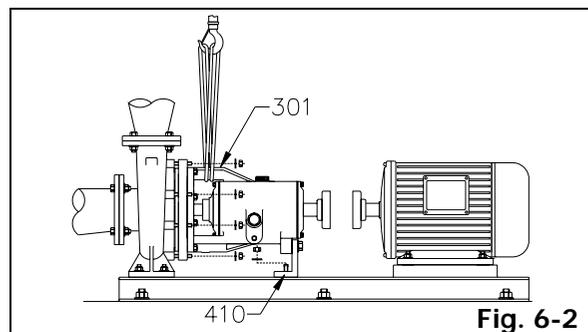

Fig. 6-2
8. Place sling from hoist through bearing bracket (301) or frame adaptor (220).
9. Remove support foot (410) hold down bolts and nuts.
10. Remove casing nuts (Fig. 6-2).